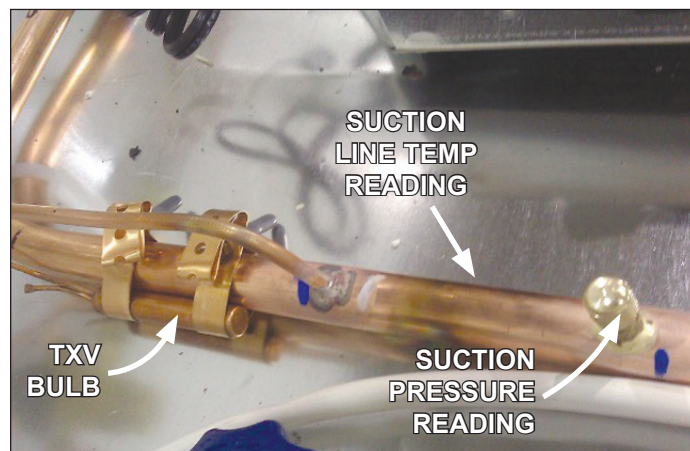

Fig. 16 Obtain pressure and temperature readings
1. Obtain suction pressure from access port; obtain suction line temperature from area near TXV bulb at the outlet of evaporator coil (Fig. 16).